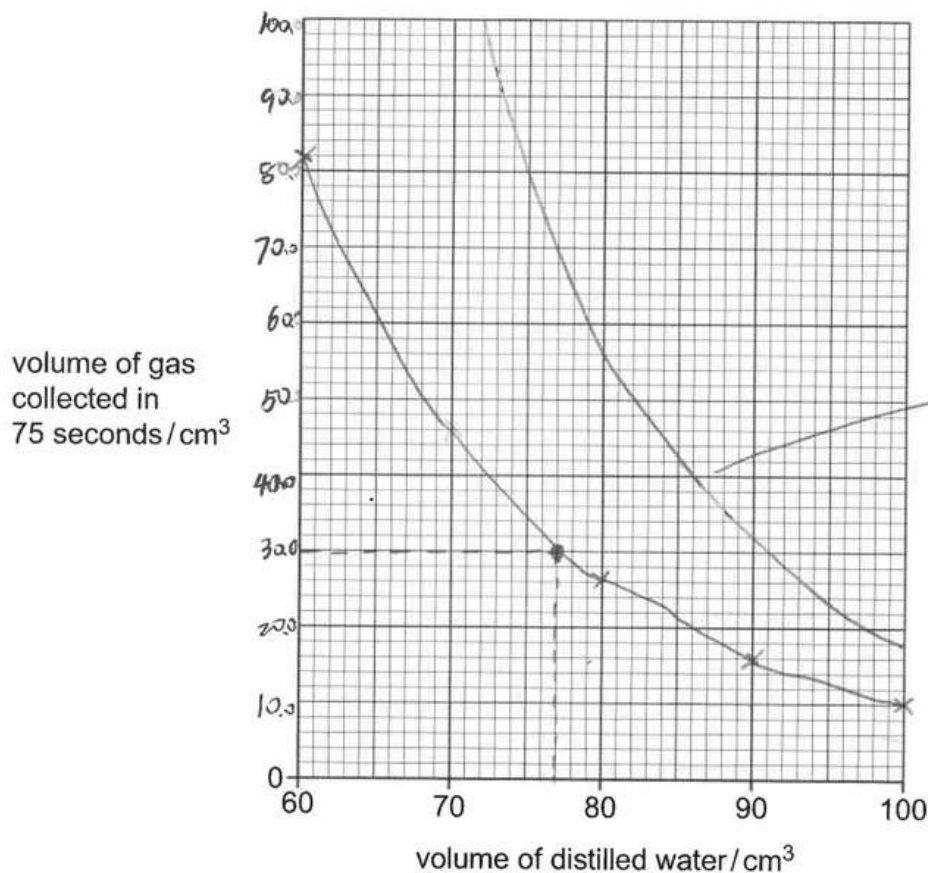

Figure 2.2
- (b) Complete a suitable scale on the y-axis and plot your results from Experiments 1 to 5 on Figure 2.2.
- (d) Use your graph in Figure 2.2 to predict the volume of gas collected in 75 seconds if the volume of distilled water is 77 cm^3 .
Show your working on Figure 2.2.
- (g) Sketch a line on Figure 2.2 to show the results that would be obtained if the experiment is repeated with 20.0 cm^3 of dilute ethanoic acid instead of 10.0 cm^3 . [1]